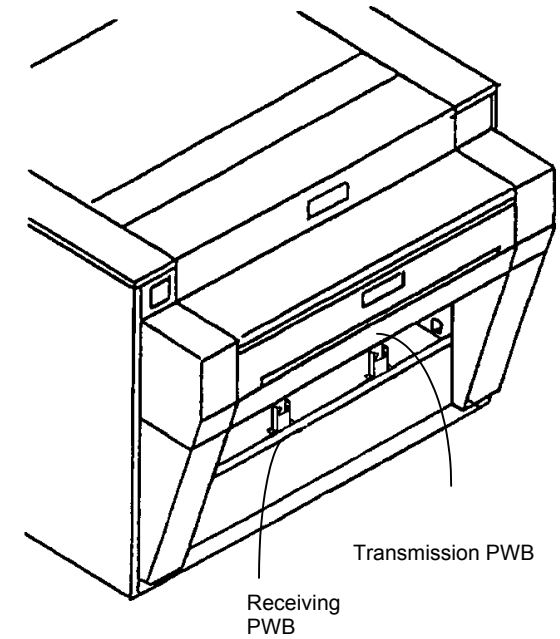

Figure 2. PWB Installation
4. (Figure 2): Install the Transmission PWB on the right bracket.
6. (Figure 2): Install the Receiving PWB on the left bracket.